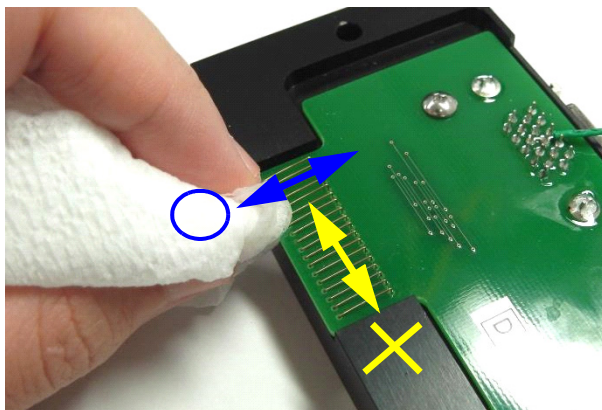

Figure 18. Cleaning the contact pins. Clean them longitudinally.
1. Clean the contact pins on the printed circuit board with "kimwipe soaked with 70% ethanol". Clean the contact pins, one-by-one, longitudinally. **Do NOT clean the pins laterally, which might damage the pins.** (See Figure 18.) Do not touch the contact pins with bare hands.